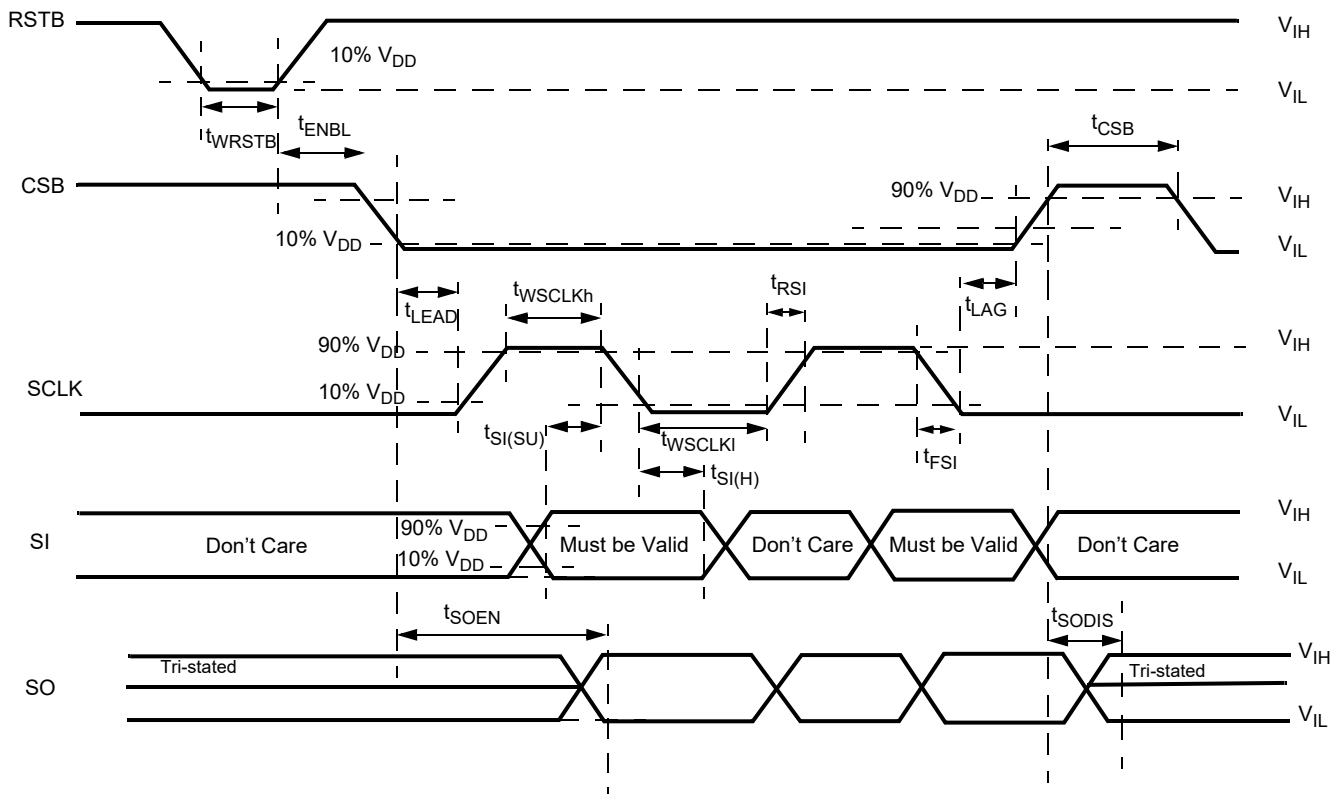
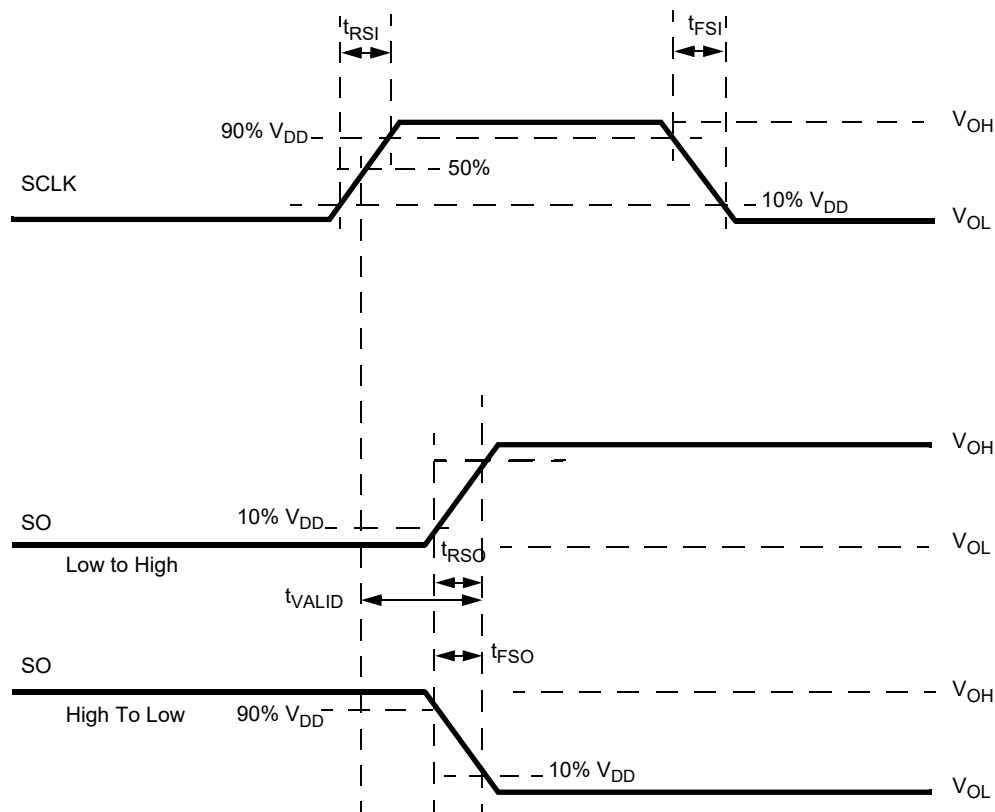

Figure 7. Timing requirements during SPI communication
Figure 8. Timing diagram for serial output (SO) data communication
Data communication over the SPI port is enabled when the CSB pin is in the logic [0] state. Data from the Input Shift registers are locked in the addressed SI registers on the rising edge of CSB. The device transfers the contents of one of the eight internal registers to the SO register on the falling edge of CSB. The SO output driver is enabled when CSB is logic [0]. CSB should transition from a logic [1] to a logic [0] state only when SCLK is at logic [0] (Figure 7 and Figure 8). CSB is internally pulled up to V_{DD} through I_{UP} .
5.2.10 Serial input (SI)
Serial input (SI) data bits are shifted in at this pin. SI data is read on the falling edge of SCLK. 16-bit data packages are required on the SI pin (see Figure 7), starting with bit D15 (MSB) and ending with D0 (LSB). All the internal device registers are addressed and controlled by a 4-bit address (D9-D12) described in Table 14. Register addresses and function attribution are described in Table 15. The SI pin is internally connected to a pull-down current source, I_{DOWN} .